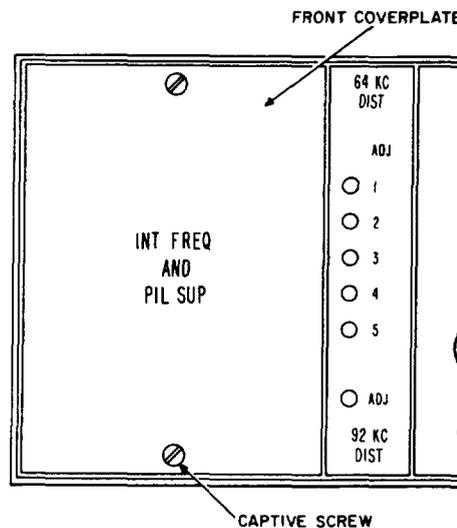
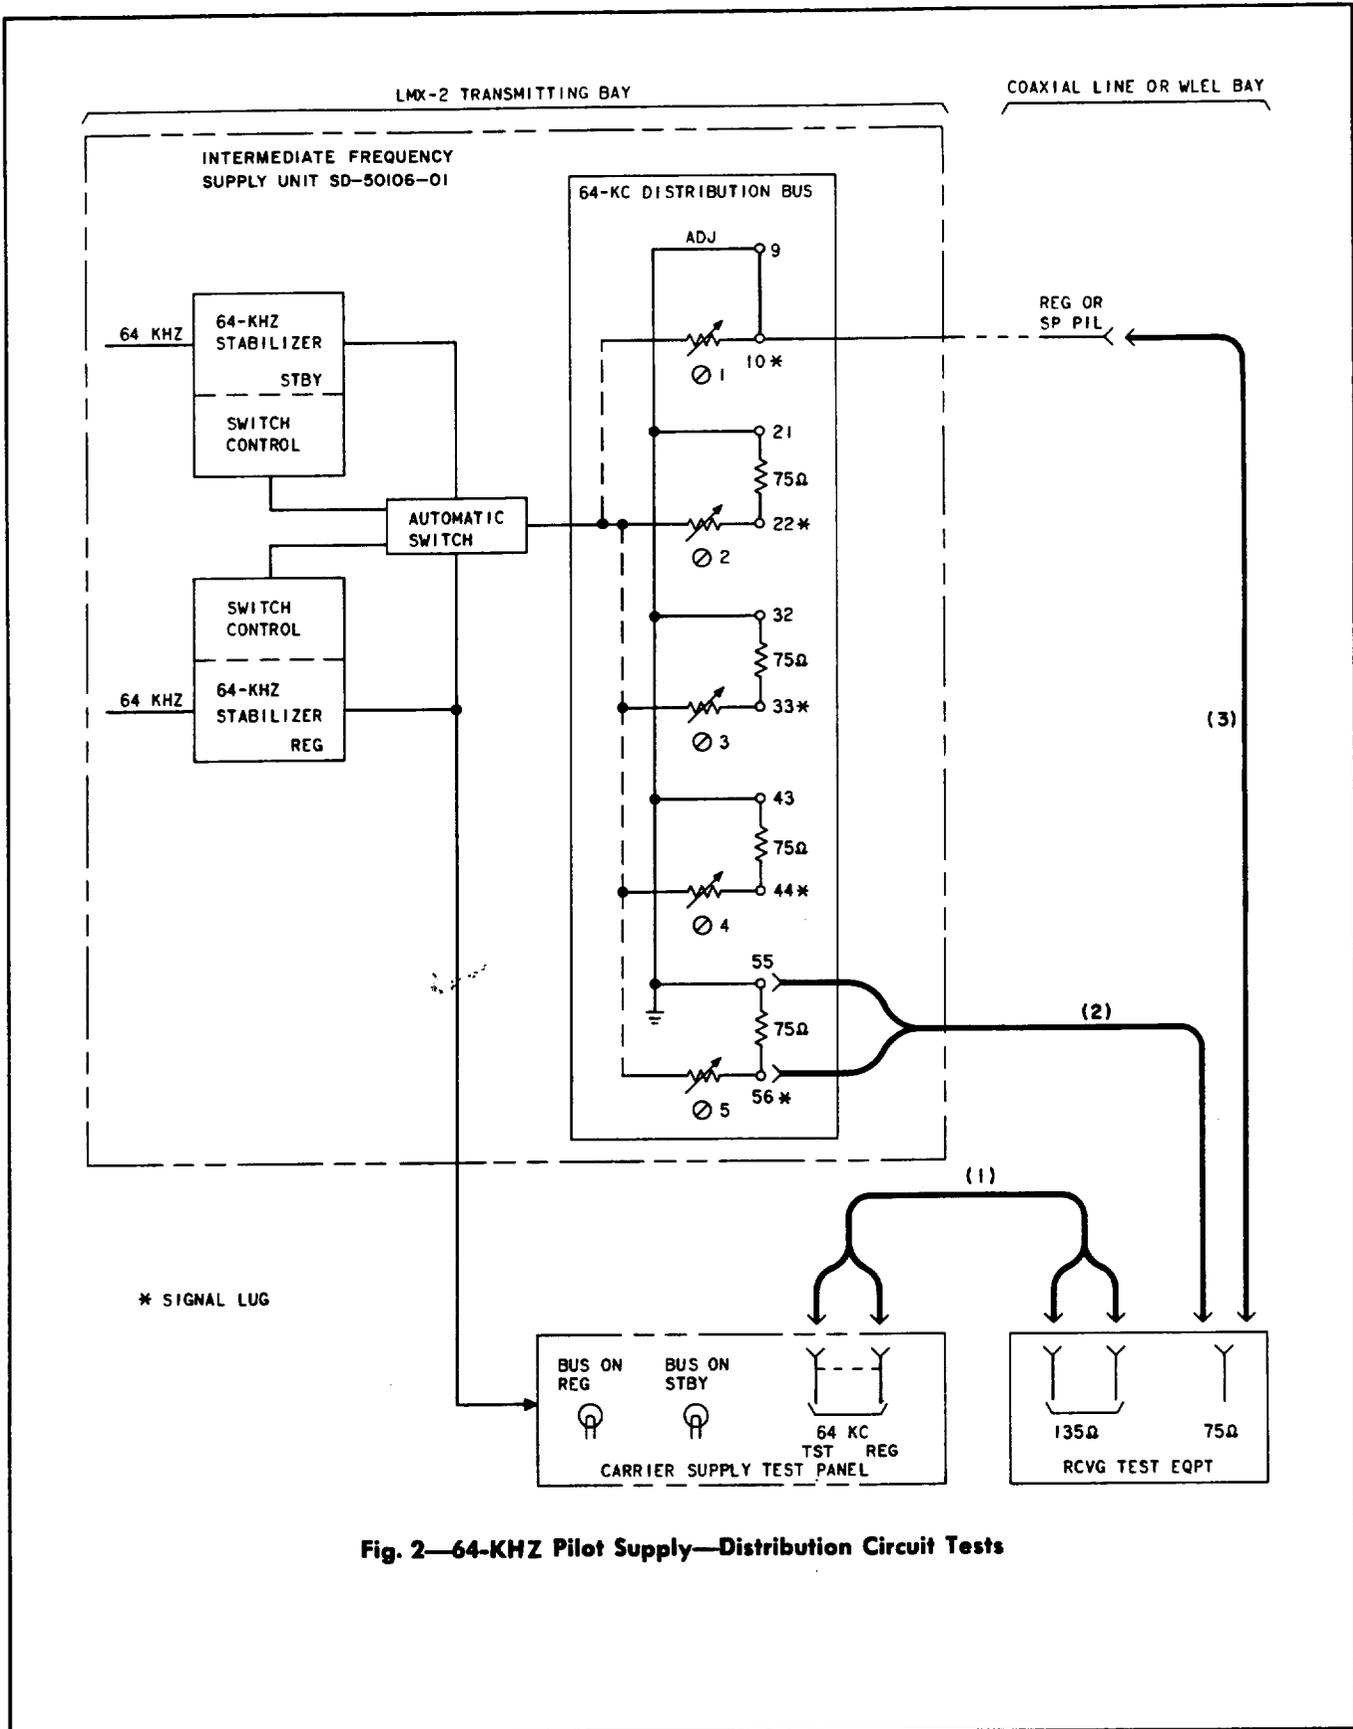

Fig. 1—Partial View—IF Supply Panel
Fig. 2—64-KHZ Pilot Supply—Distribution Circuit Tests
1	<p>At the carrier supply test panel, visually check that the REG 64-kHz stabilizer and switch control unit is feeding the 64-kHz distribution bus.</p> <p>Note: A lighted 64 KC BUS ON REG lamp indicates the regular stabilizer unit is feeding the distribution bus.</p> <p>Input Signal Level</p> <p>2 Prepare the receiving test equipment for a 135-ohm terminated measurement of 64 kHz at a power of 0 dBm.</p> <p>3 Make patch (1) in Fig. 2.</p> <p>4 Measure the power of the 64-kHz signal at the 64 KC TST REG jacks.</p> <p>Requirement: 0 dBm \pm0.05 dB.</p> <p>5 If the requirement of Step 4 is met, proceed to Step 6. If it is not met, make tests as prescribed in Section 356-275-501.</p> <p>Output Signal Level</p> <p>6 Prepare the receiving test equipment for a 75-ohm terminated measurement of 64 kHz at a power of -64 dBm.</p> <p>7 At the intermediate frequency supply panel, remove the front coverplate by turning the two captive screws on the left-hand front coverplate (Fig. 1) counterclockwise until they are disengaged.</p>
9	<p>If the distribution tap is terminated by a 75-ohm resistor, proceed as follows.</p> <p>(a) Remove the 75-ohm resistor lead connected to the signal lug of the distributing tap to be tested (Fig. 2).</p> <p>(b) Make patch (2) in Fig. 2.</p> <p>Note: Connect the inner conductor test clip of the W2DC test cord to the signal lug and the outer conductor test clip to the ground lug of the distribution tap under test.</p> <p>(c) Proceed to Step 11.</p>
10	<p>If the distribution tap is connected to a coaxial cable, proceed as follows.</p> <p>(a) Determine from office records the coaxial line or wire-line entrance link facility connected to the distribution tap to be tested.</p> <p>(b) Remove service from the coaxial line or wire-line entrance link facility.</p> <p>(c) Make patch (3) in Fig. 2.</p> <p>(d) Proceed to Step 11.</p>
13	Remove patch (2) or (3) in Fig. 2.